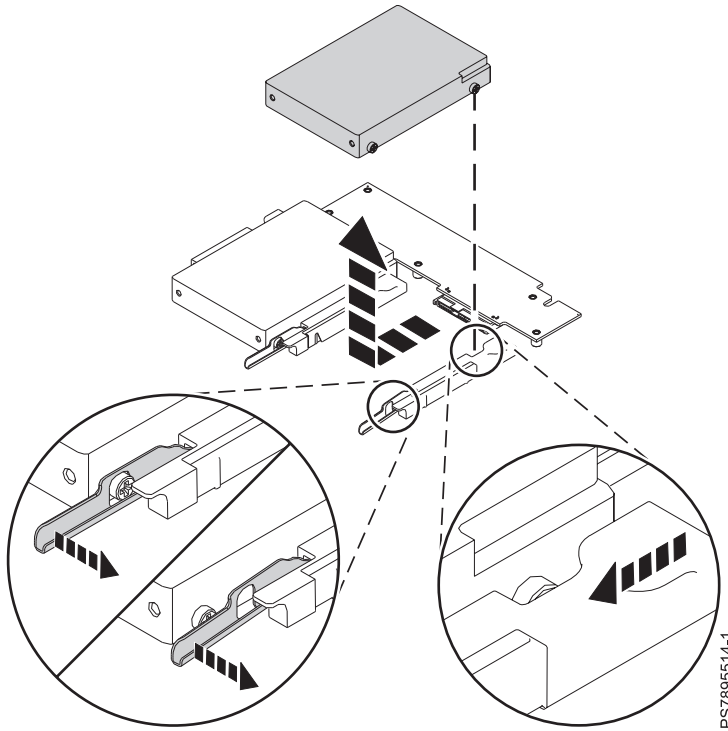

Figure 8. Removing a hard disk drive
- a. Move and hold the blue release lever at the front of the drive tray, as indicated in Figure 8 on page 36.